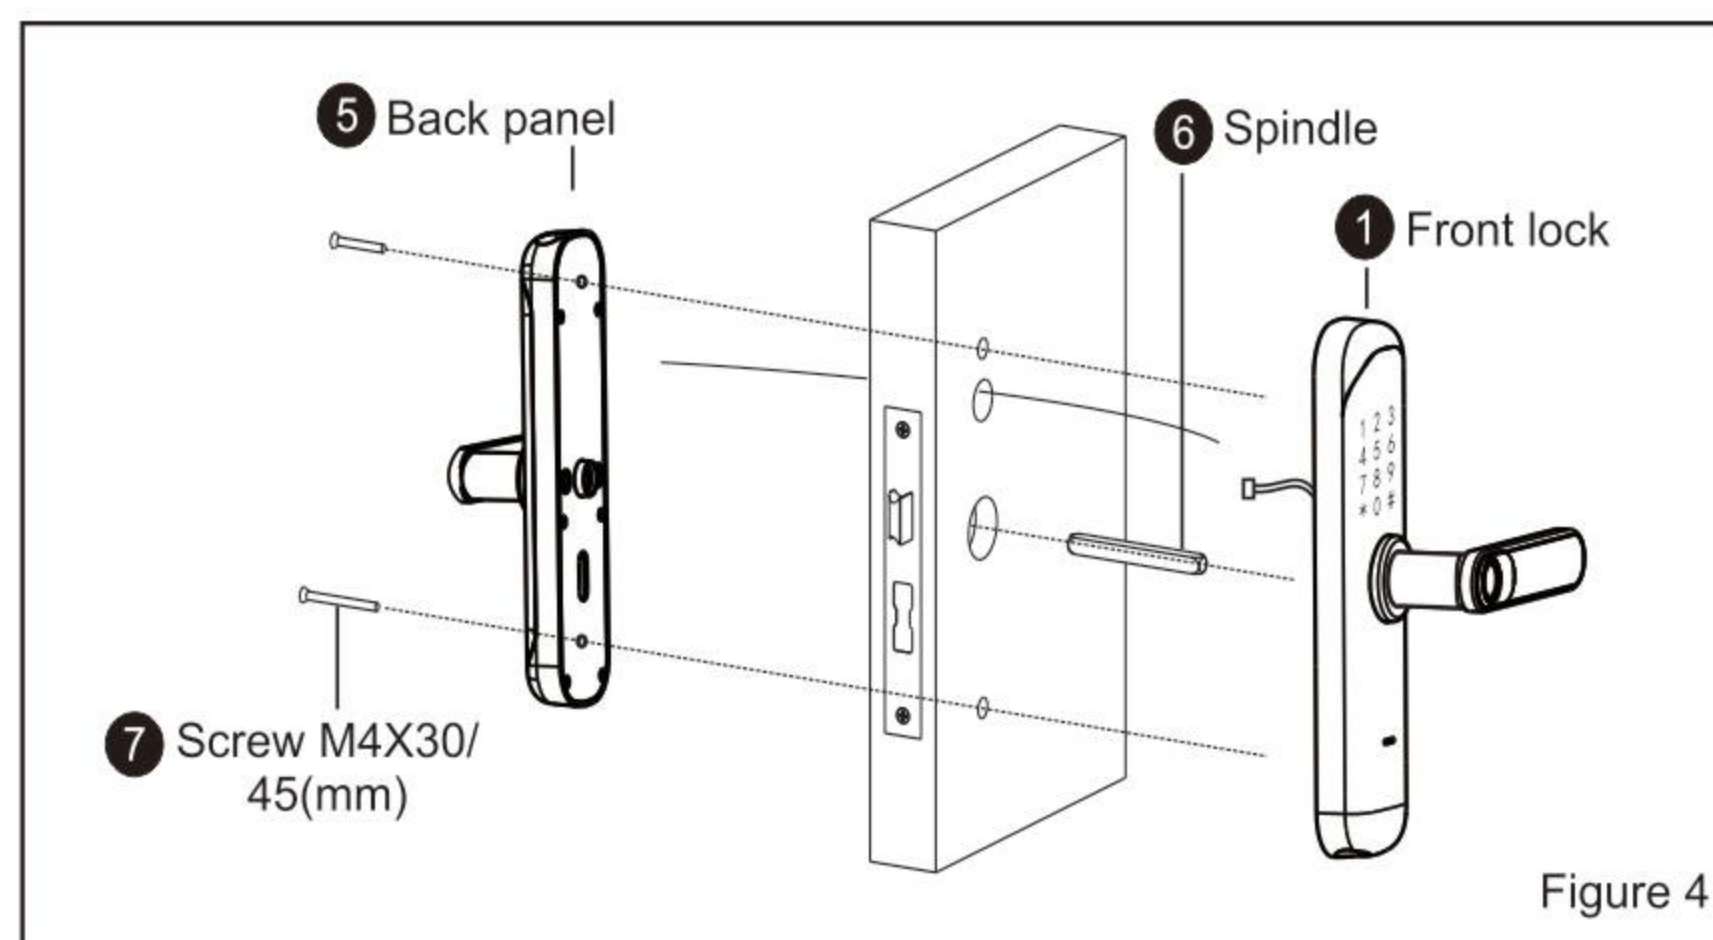

Figure 4
(4) As Figure 4:
- ① Put the spindle on the mortise.
- ② Make the front panel cable across to the door plate and connect to the back panel.
- ③ fix the front panel and back panel with two screws.